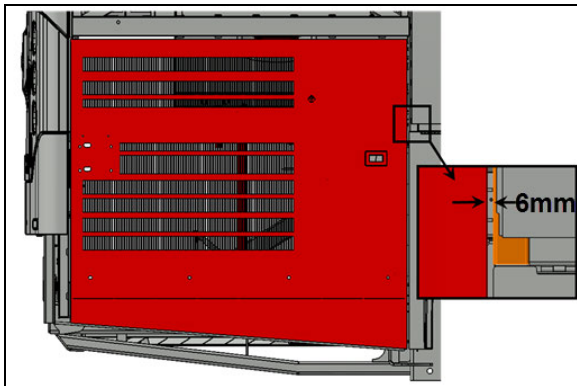

FIGURE 114
5. Check the gap between the door and the adjacent panel at the level of the upper attachment point of the arm on the door. The gap should be  $1/4"$  (6 mm) (FIGURE 114).